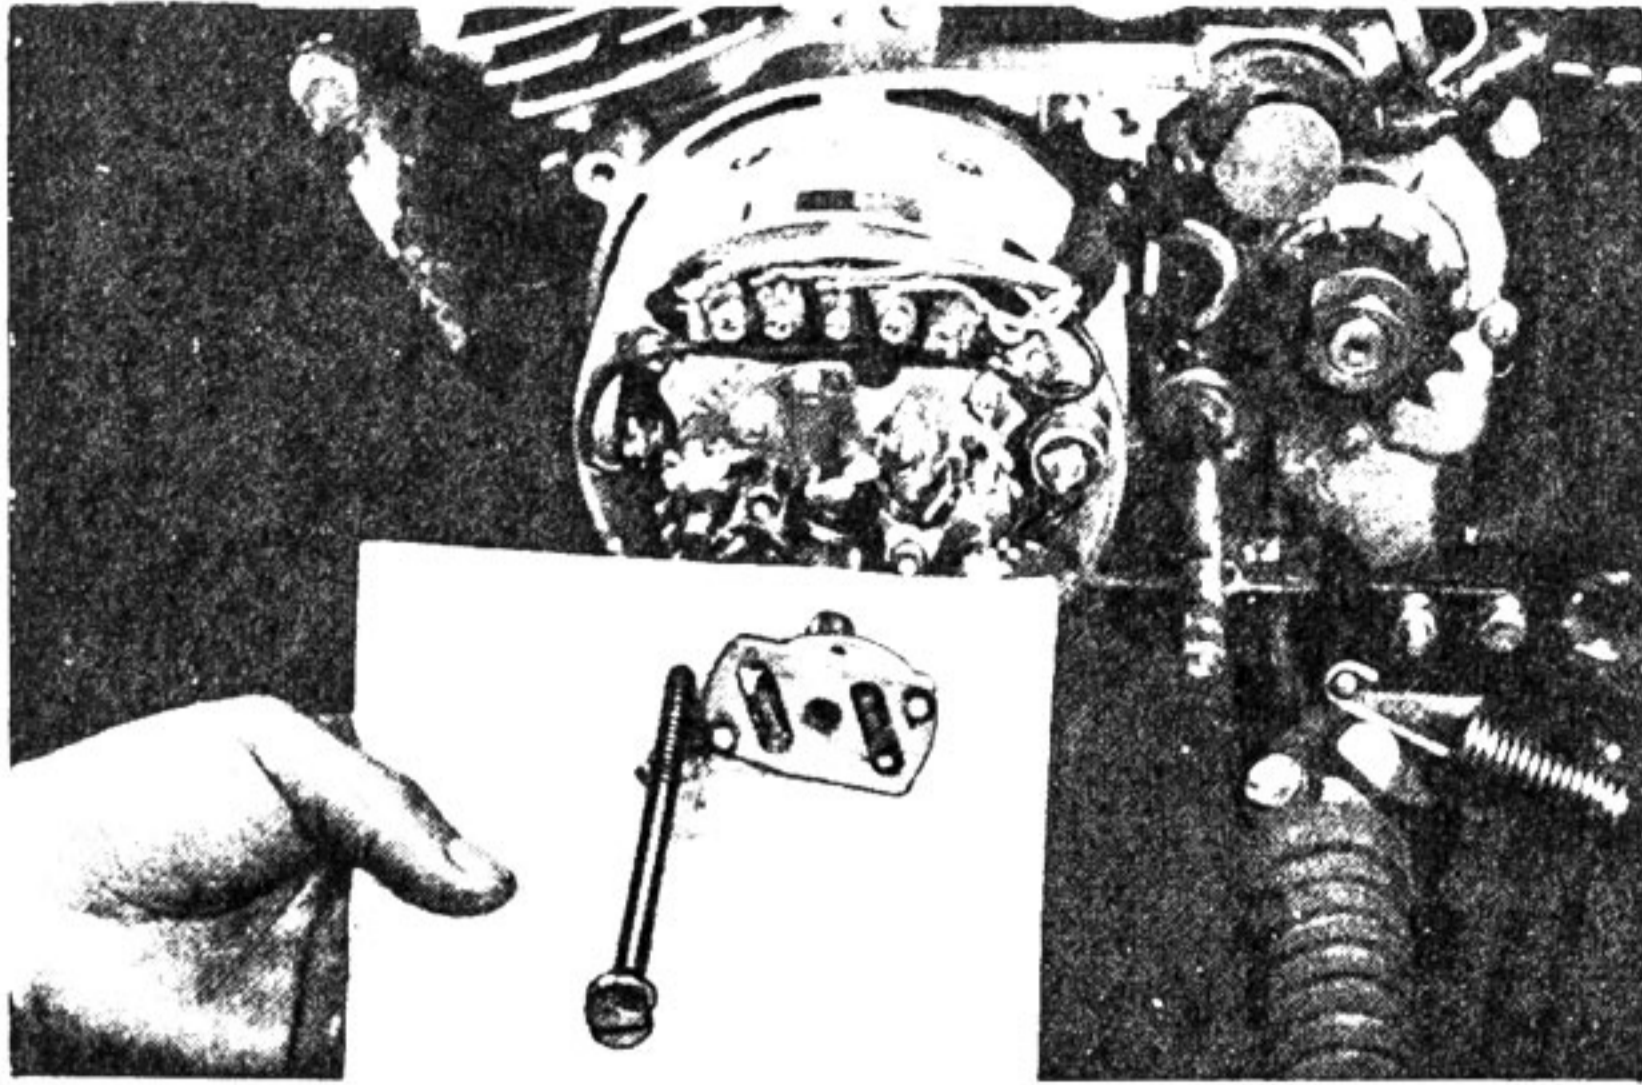

Fig. 4-1-7
(3) Remove the governor. (Fig. 4-1-7)